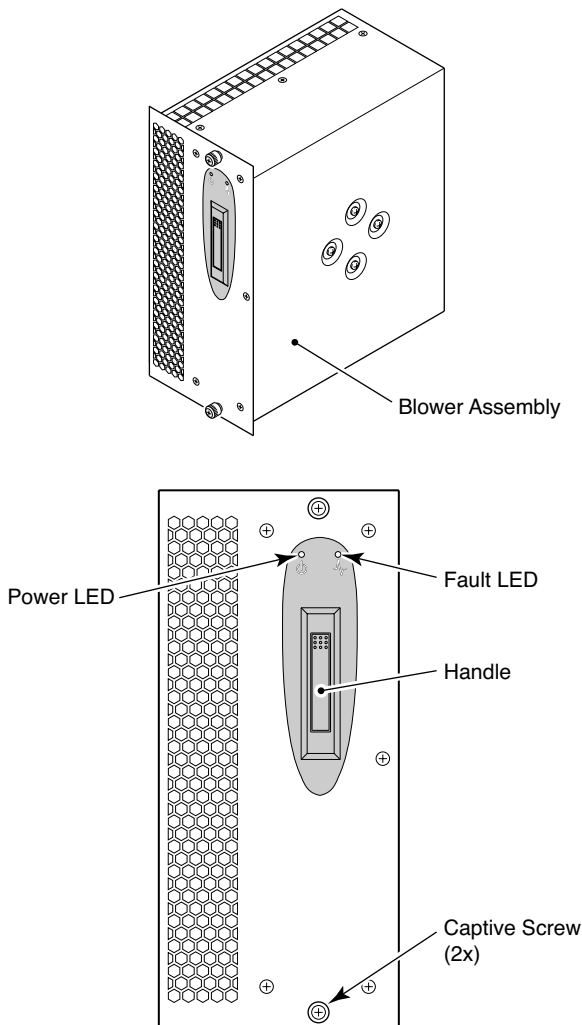

Figure 18 Blower assembly LEDs
1. Check the LED indicators on the blower assembly (see Figure 18).